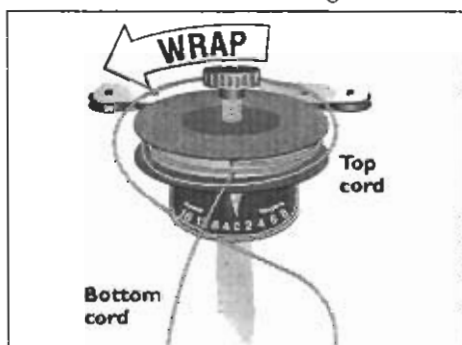

Figure 26
3. Wrap all of the cord coming out of the top of the clip (Figure 26) counter-clockwise around the drum until there is no more left to wind (Figure 26).